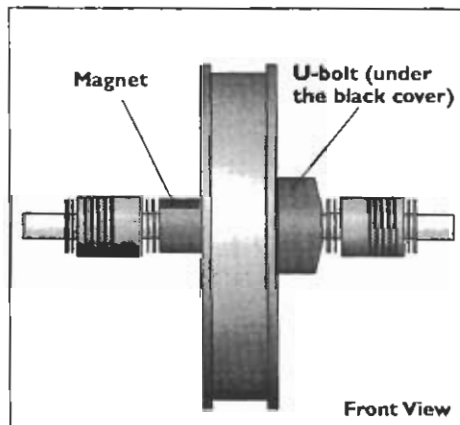

Figure 19
1. Remove the black U-bolt cover. The U-bolt is located under the black cover on the right side of the flywheel, between the flywheel and the side rail (Figure 19).
11. Remove the bearing blocks, nylon washers, E-clips and drive rollers from the axle. Be sure to note the order of assembly (Figure 19).